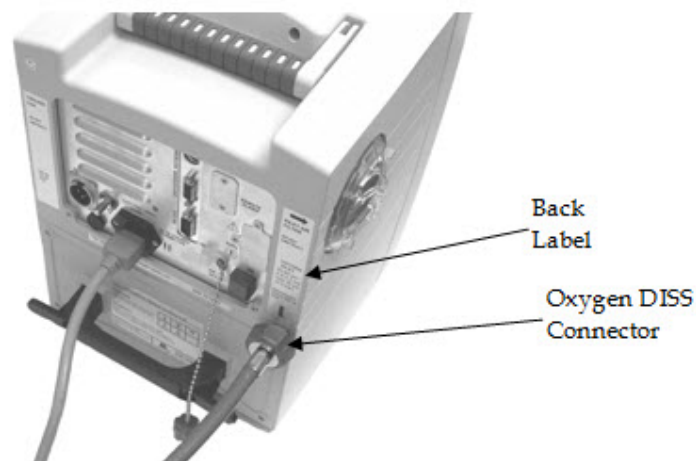

Figure 11: The Oxygen Inlet Connector
**The exact oxygen pressure which the iVent™201 requires when connected to medical grade oxygen depends on the version you have. Check the back label (Shown in Figure 11) for the pressure levels of your unit.**
If using pressurized oxygen, connect the oxygen supply to the oxygen O2 inlet connector at the back of the ventilator (Figure 11).